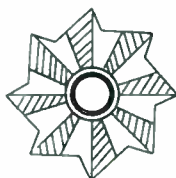

Fig. 13
(1) When installing the head adjusting holder work assembly to the chassis, adjust the tapping screw A so that the tip of the adjusting screw comes to the center of the shaded area in Fig. 13.